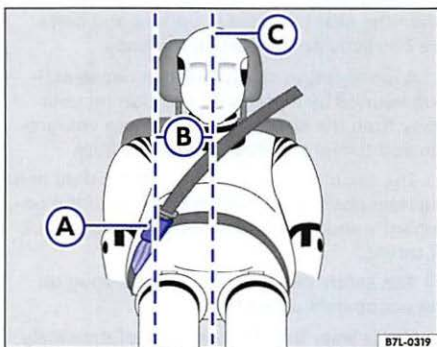

Fig. 57 Positioning of the safety belt extender.
Key to fig. 57:
- Never use a safety belt extender if the distance (B) between the front edge of the safety belt extender buckle (A) and the centerline of the person using the safety belt extender $\Rightarrow$ fig. 57  is less than 6 inches (15 cm).